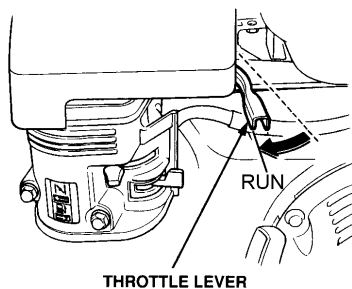

Figure 13. Throttle Lever (Run)
9. To begin pumping, place the throttle lever (See Figure 13) in the "RUN" position.